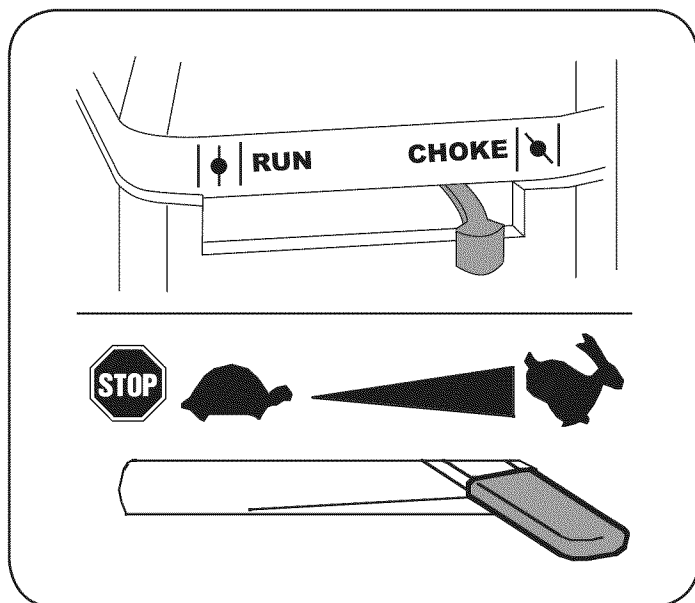

Figure 13
4. Move the choke lever on the engine to CHOKE  position. (A warm engine may not require choking.) See Figure 13.
5. Move throttle control to START/RUN (Rabbit)  position. See Figure 13.